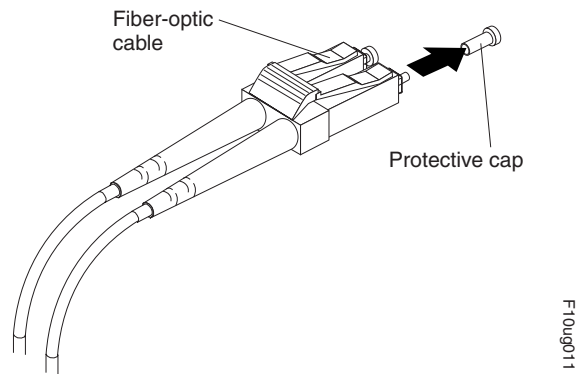

Figure 41. Removing fiber-optic cable protective caps
3. Remove the two protective caps from one end of the LC-LC cable, as shown in Figure 41. Save the protective caps for future use.